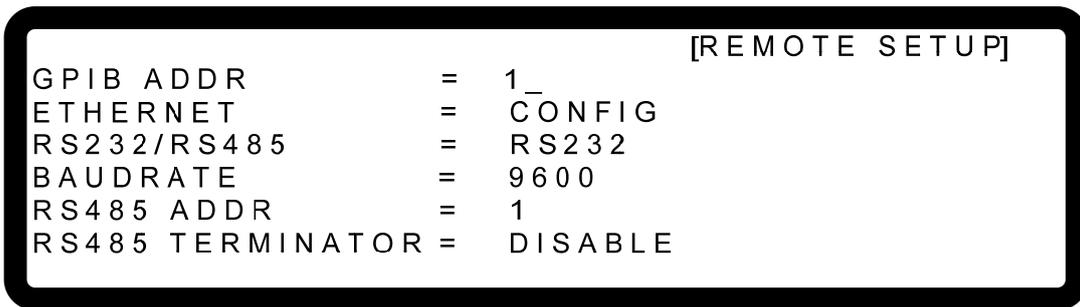

Figure 3-121
1. Use “”, “” keys to move the cursor to the column of GPIB ADDR as Figure 3-121 shows.